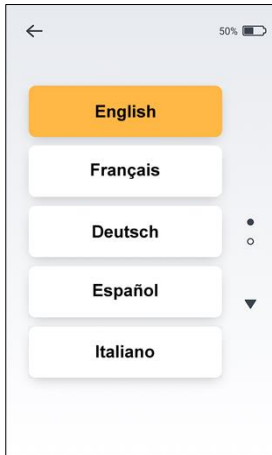

Fig. 14
- Select your preferred language from the available languages list – see Fig. 14.